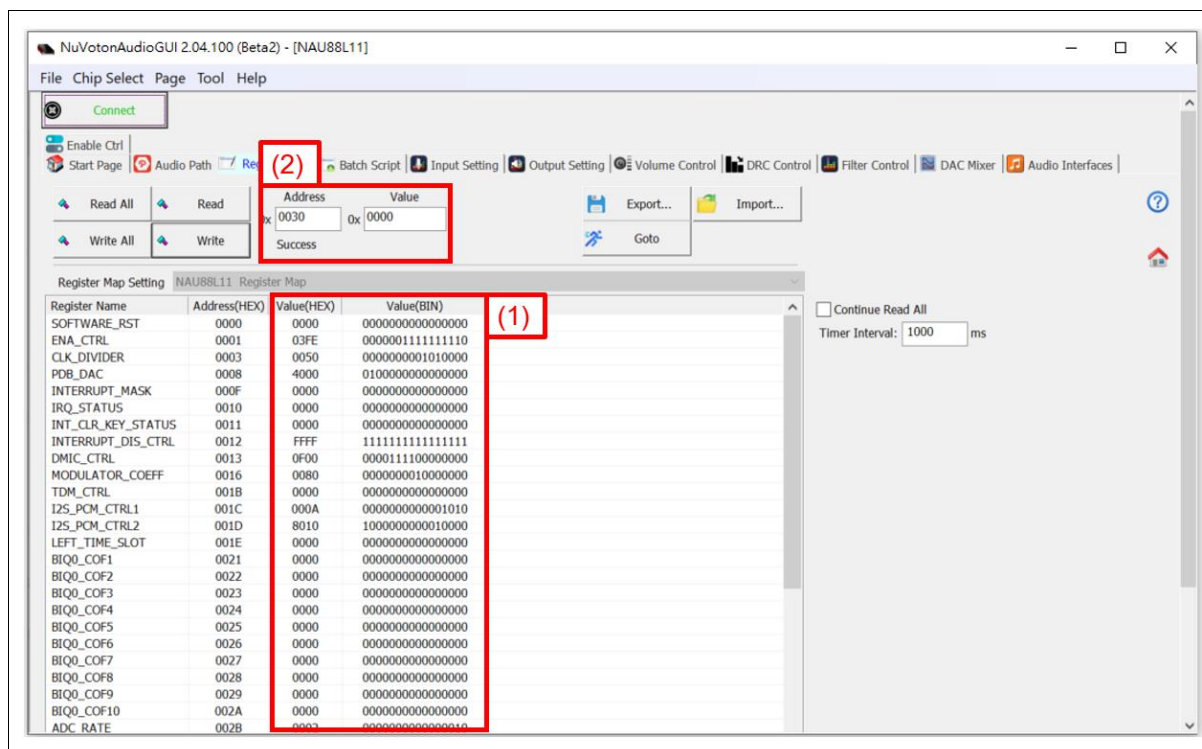

Figure 3-10 Register Map Page on NuvotonAudioGUI
- Users can directly key in desired register values into the "Value" field next to the corresponding address, as shown in Figure 3-10. ("Value" has hexadecimal and binary column respectively, just select one to modify.)
- If users want to read the specified address value, enter the address value in the "Address" field, as shown in Figure 3-10. After clicking the [Read] button on the left, the address value will be displayed in the "Value" field. If users want to modify the specified address value, enter the desired address and corresponding value in the "Address" and "Value" fields respectively, and click the [Write] button on the left to complete the modification.